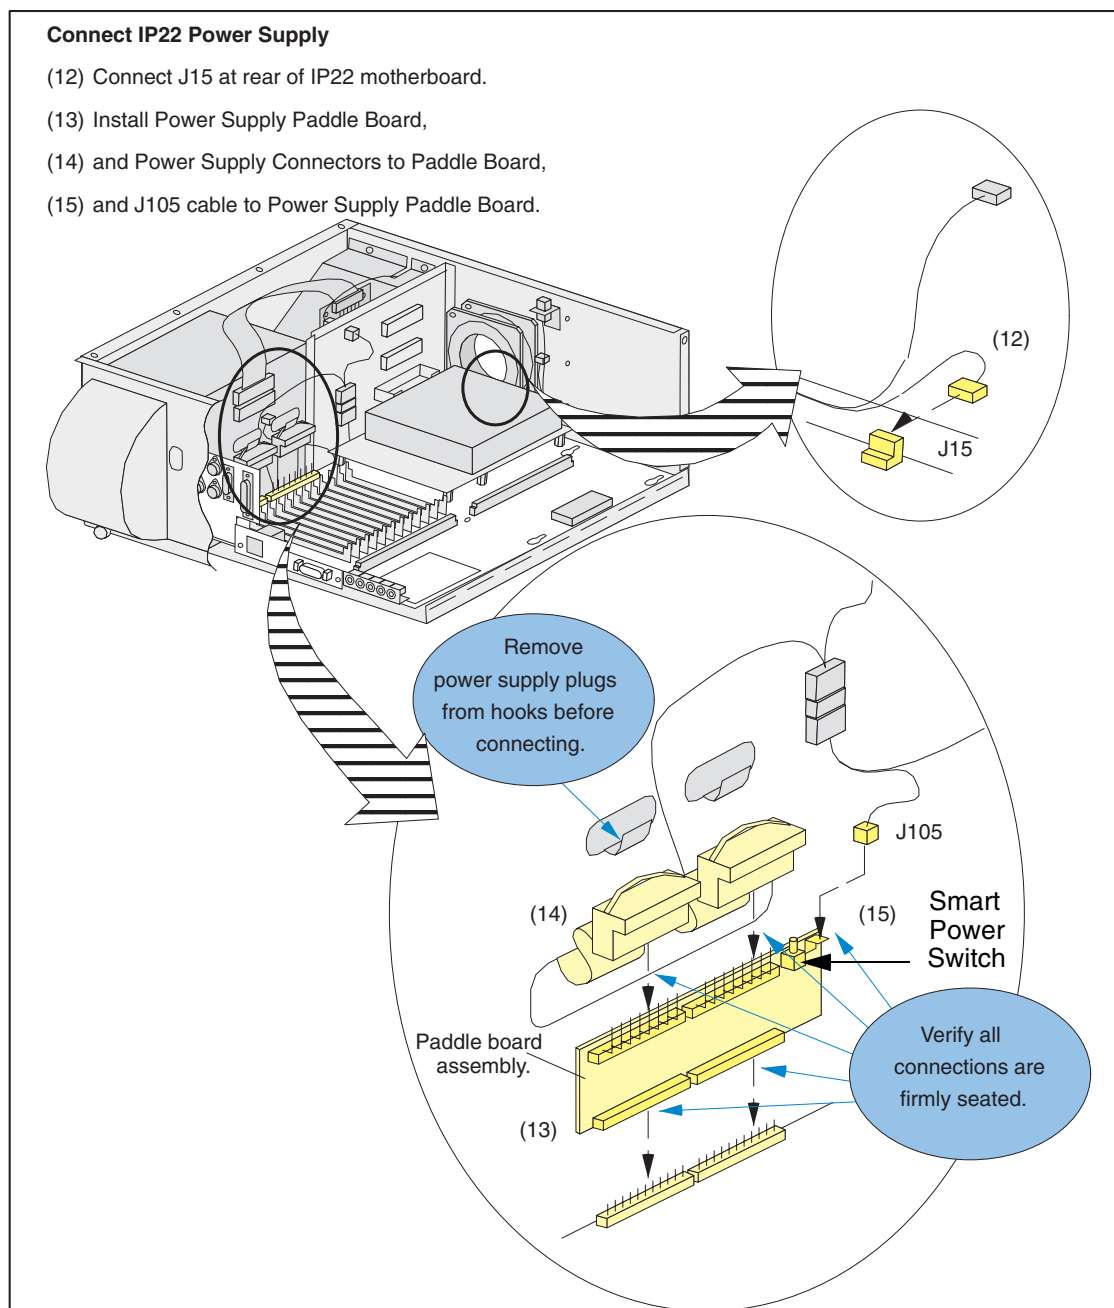

Figure 8-78 Install IP22 Power Connections
- 3.) After replacing the IP22 motherboard and re-connecting power; press the Smart Power Switch located on the power supply paddle board. See Figure 8-78. The paddle board is small circuit board that interfaces between the PS cable and motherboard. The green card cage LED should now be "on" and the fans operating. If you are experiencing difficulties, see Section 2.2.3.2 on page 428 for troubleshooting information.